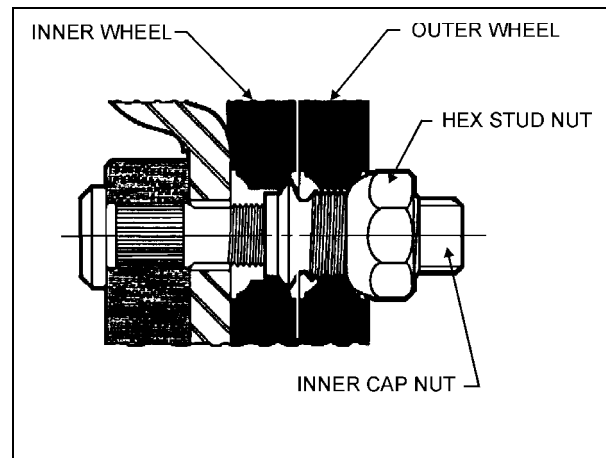

FIGURE 2: DUAL WHEEL INSTALLATION
1. Screw in the inner cap nuts (shown in Fig. 2) and refer to Figure 1 for sequence, so that wheel will position itself concentrically with hub.
Tighten the hex head nuts (shown in Fig. 2) using the single wheel installation procedure described previously.
1. Loosen a hex head nut three turns (Fig. 2).